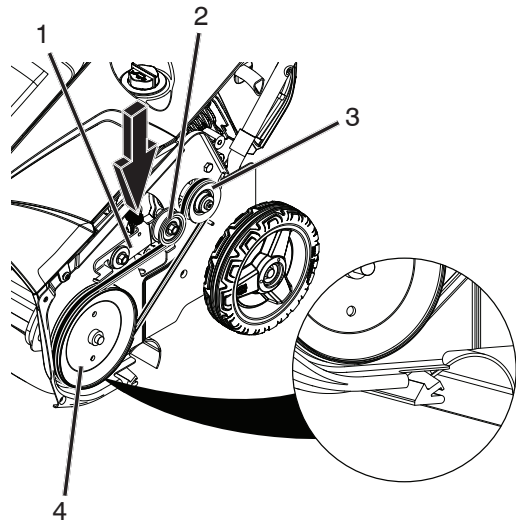

Figure 35
4. Install the new auger v-belt and drive pulley, routing it as shown in Figure 35.
NOTE: Route the new auger v-belt first around the engine pulley, then the idler pulley, and finally around the drive pulley while pressing down on the front of the idler arm. (Figure 35).